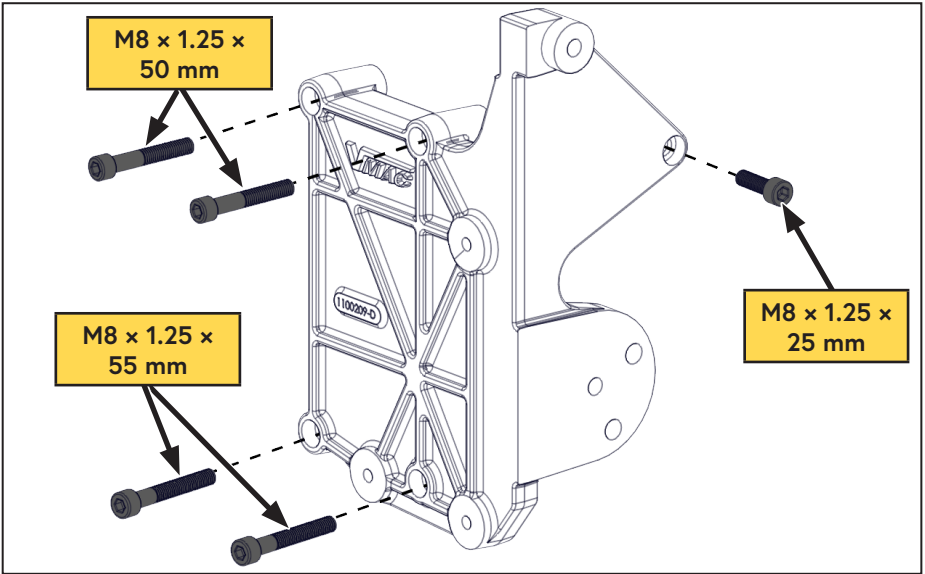

Figure 10 — Main bracket mounting fasteners
- Apply Loctite 242 (blue) to the 5 supplied fasteners and install the VMAC main bracket onto the engine (Figure 10).